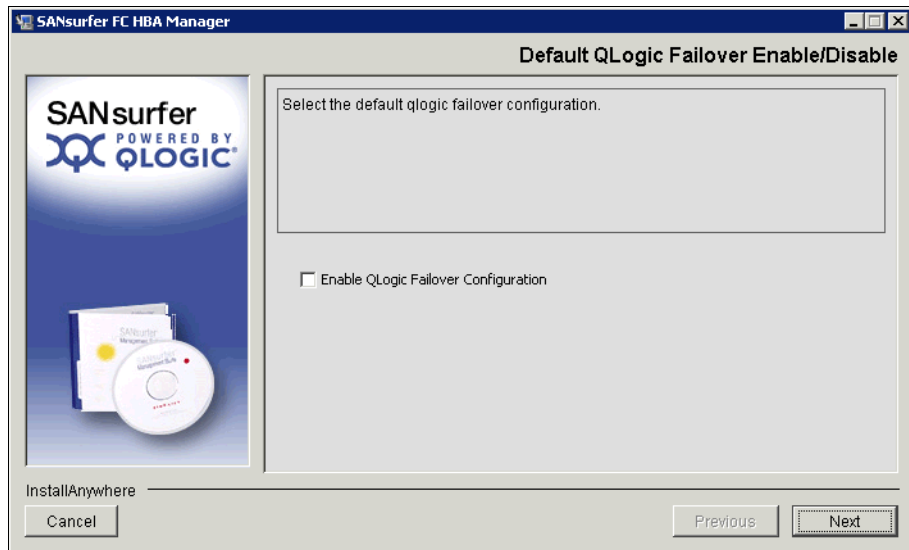

Figure 17-7 Leave the Enable QLogic Failover Configuration check box clear
- At the end of installation process, do *not* select **Enable QLogic Failover Configuration** because you are going to use MPIO as the default multipath driver (Figure 17-7).